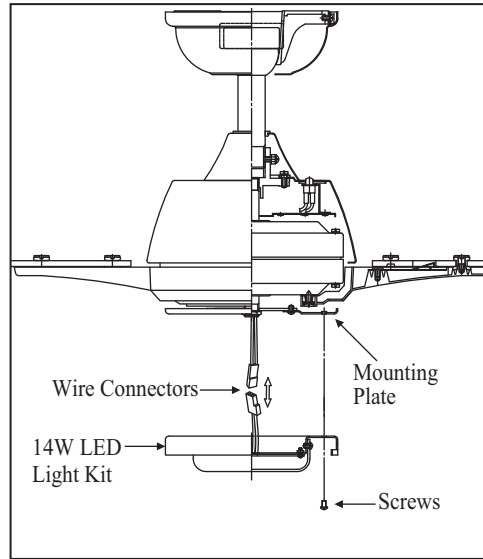

Figure 19
1. Remove the 1 of 3 screws from the posts of the mounting plate and keep it for future use. Loosen the other 2 screws. (Do not remove) (Fig. 19)
3. Place the key holes in the 14W LED light kit over the two screws previously loosened from the mounting plate. Turn the 14W LED light kit until the 14W LED light kit locks in place at the narrow section of the key holes. (Fig. 19)
4. Securely tighten the two light kit mounting screws previously loosened and the one previously removed. (Fig. 19)